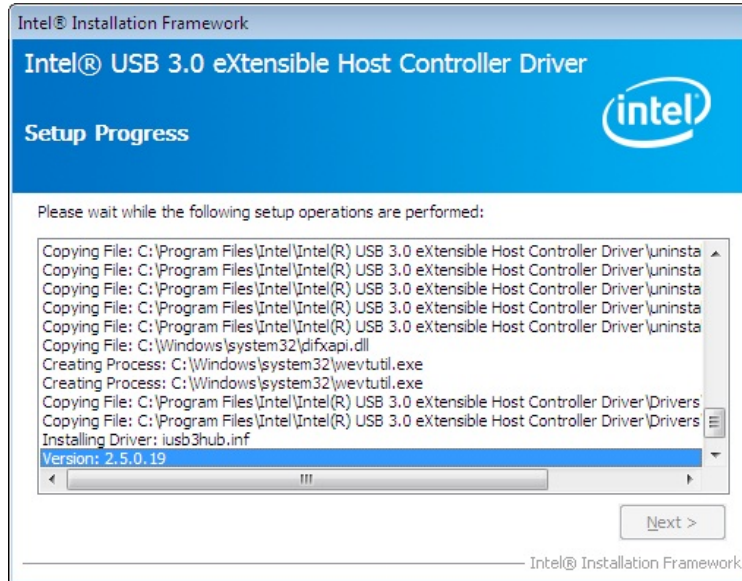

Figure 6-22: USB 3.0 Driver Setup Operations
Step 9: Setup Operations are performed as shown in Figure 6-22.